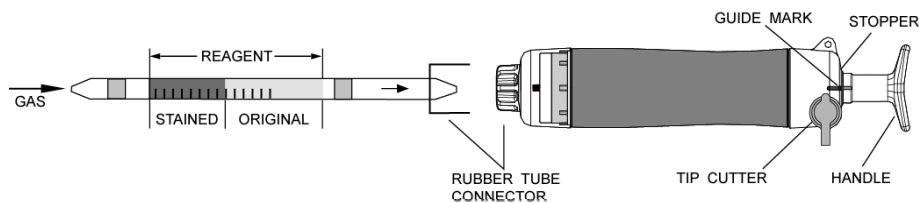

Fig.1
- ② Insert the detector tube into aspirating pump securely as shown in Fig.1. (Arrow mark shall point to the pump.)
- ③ Align the guide marks on the shaft and stopper of the aspirating pump.
- ④ Pull the pump handle at full stroke locked position and wait for 2 minutes or until the completion of sampling is confirmed with the flow indicator of the pump (See descriptions about the flow indicator in the instruction manual of the pump).
- ⑤ On completion of sampling, read the scale at the maximum point of the stained layer.